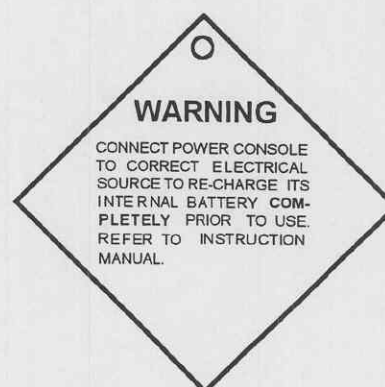

Figure 1-13. Warning tag.
(5) A warning tag (fastened on the back of the APS) providing information about the use of electrical power is depicted in figure 1-13.